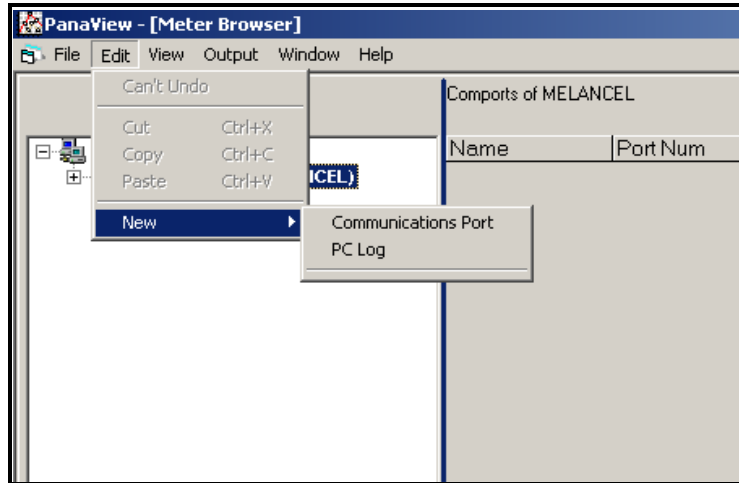

Figure 17: The Edit Menu
3. Click on the "New" menu option to select it, and a submenu opens with two choices on it (see Figure 17).